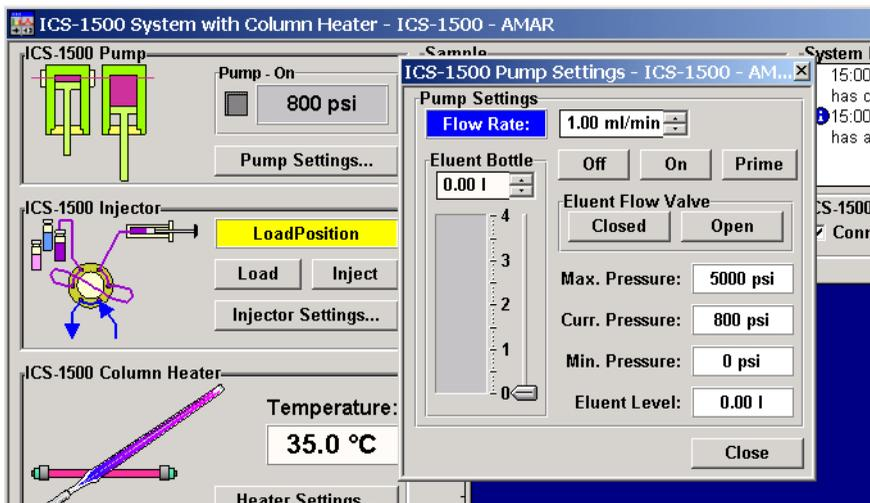

Figure B-37. Chromeleon Control Panel: Pump Settings
- On the Chromeleon Control Panel, click **Pump Settings** and then click **Eluent Flow Valve Open** (see Figure B-37).
3. Click **Prime** on the Chromeleon Control Panel (see Figure B-37). The pump will begin pumping at approximately 3.0 mL/min.